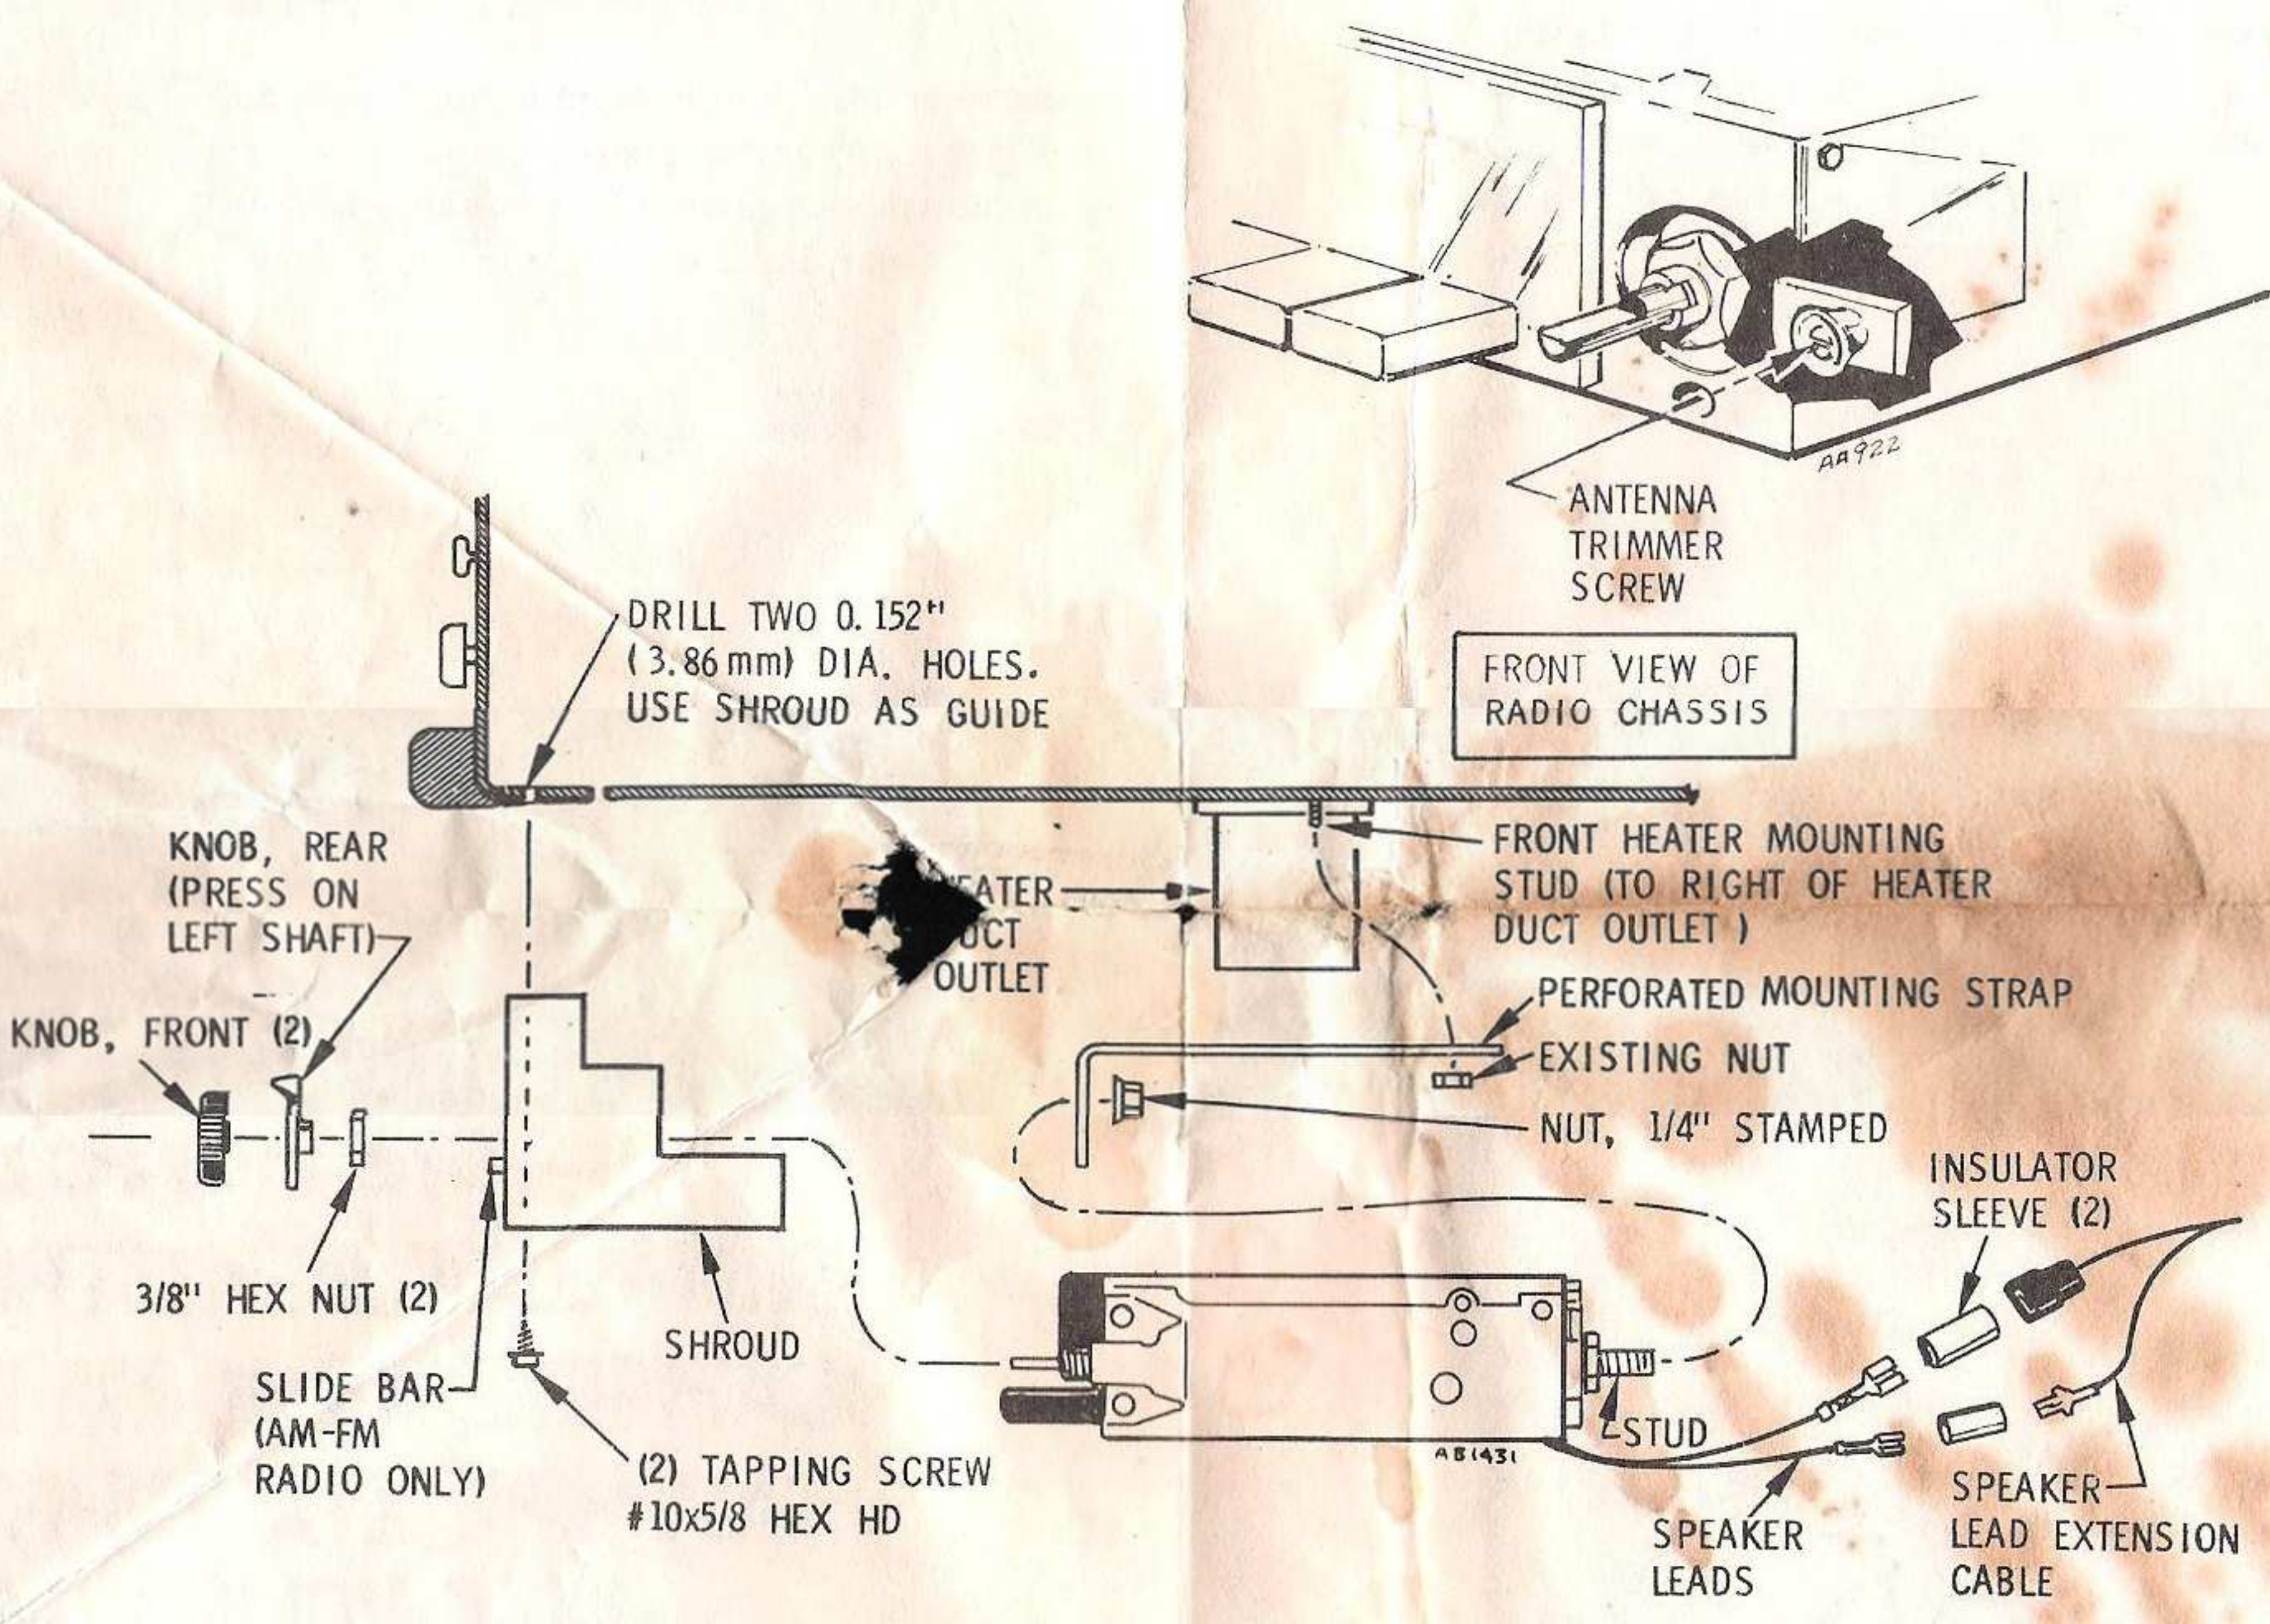

FIGURE 3
- Bend perforated mounting strap as required and install as indicated in Figure 3.
- Insert terminals of radio speaker leads into appropriately sized insulator sleeve and connect to speaker lead extension cable (Figure 3).
- Adjust antenna trimmer screw until maximum (peak) volume of random noise and/or weak station is heard. (See Figure 3 for location of antenna trimmer screw)